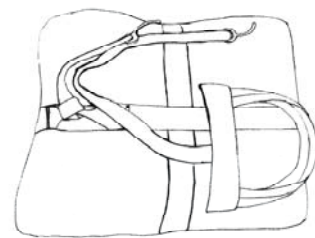

Fig.3
- Connect the trigger to the container by threading the loop on the trigger through the eye on the container and then pass the handle through the loop – a knot between the trigger and container eye will result (see Fig. 3).